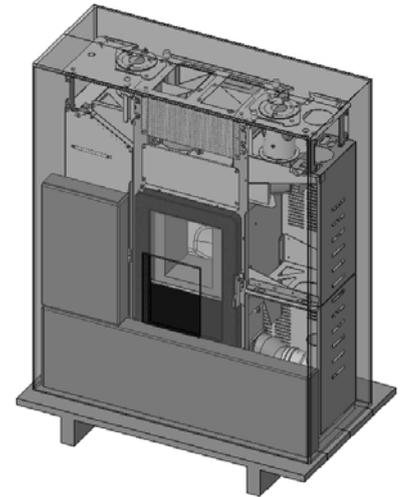
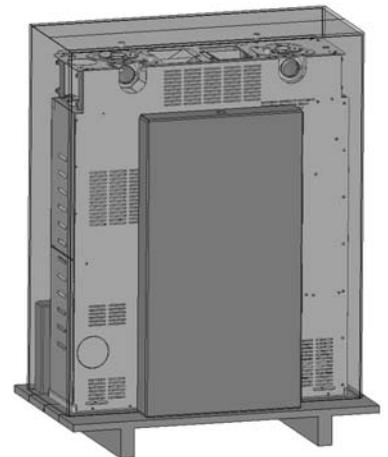

Figure 1 - Stove packaging (front view)
Figure 2 - Stove package (rear view)
- ✓ The first package contains the stove (fig. 1)
- ✓ The second contains the painted steel front panel in 2 pieces (fig. 2)
The packages containing the grille and the top are placed together with the stove in the same box (fig. 1). The package containing the front panels is placed alongside the stove package (fig. 2).